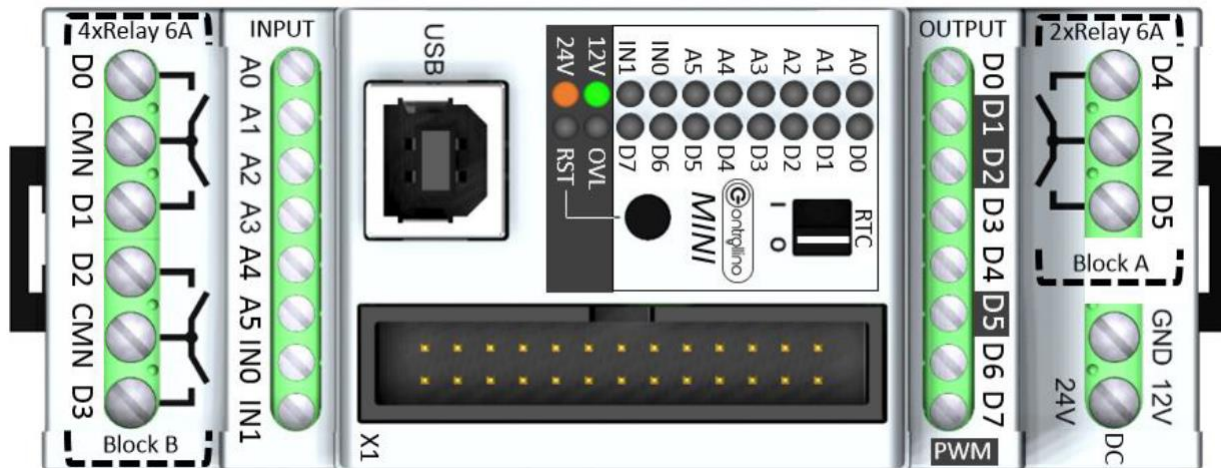

Figure 4: Relay Zones
**IMPORTANT!** The relay outputs are divided into 2 blocks **Block A / Block B** (figure 4). Due to security reasons, within one block you may only use one type of switching circuit. This means that within block 1, you may only use 230V or DC which is not SELV (Safety Extra Low Voltage) and SELV circuit on block 2 or vice versa. **It is not possible to combine these two types of circuits in one block.**